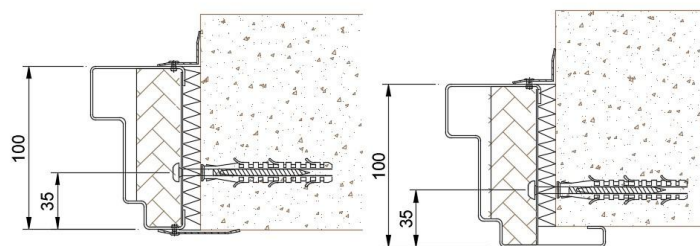

Figure 6 – Installation of the door into the structural opening SMU101/201; SMU102/202
Doubled according to Figure 6
16) Fill the gap between the frame and the wall according to **Table 1** and the descriptions in Figures 6, 7, 8 and 9.
17) Install the countersunk head caps of the fastener holes (unless required otherwise) and if there are cover strips, fasten them as shown in Figure 6.